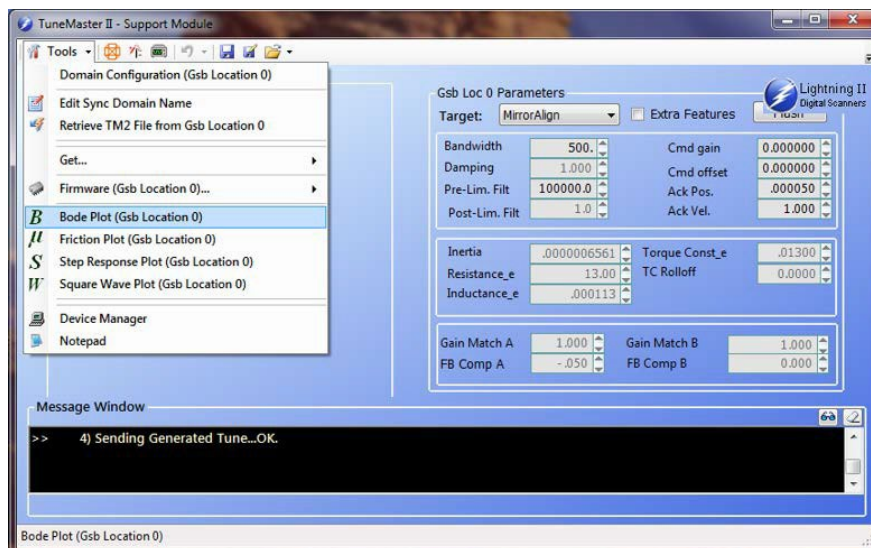

Figure 2 - Get Bode Plot for Gsb Location 0
2. Click the 'Tools' menu. In the dropdown list, select 'Bode Plot (Gsb Location 0)'(Figure 2).